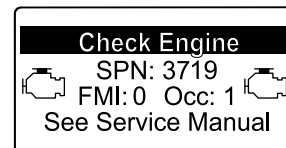

Figure 43
- If a recovery regeneration is needed, the InfoCenter displays engine warning SPN 3719, FMI 16 (Figure 43) and the engine computer derates engine power to 85%.